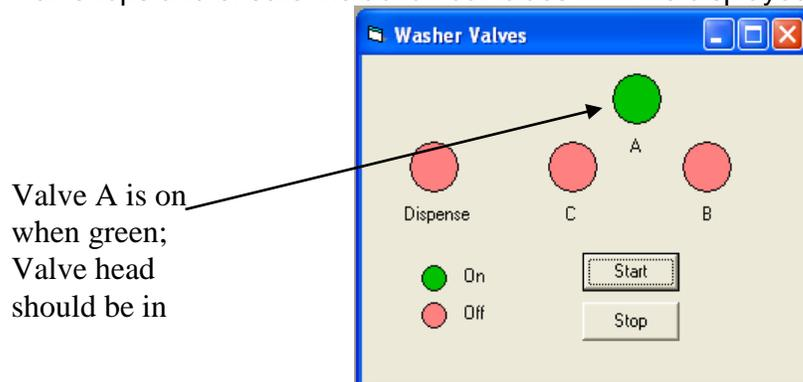

Figure 5-70: Washer Valve Test - In Progress
14. The valves will now cycle on and off. Check which valve is activating by touching the valve tops and ensure the action coincides with the displayed buttons (Figure 5-70).